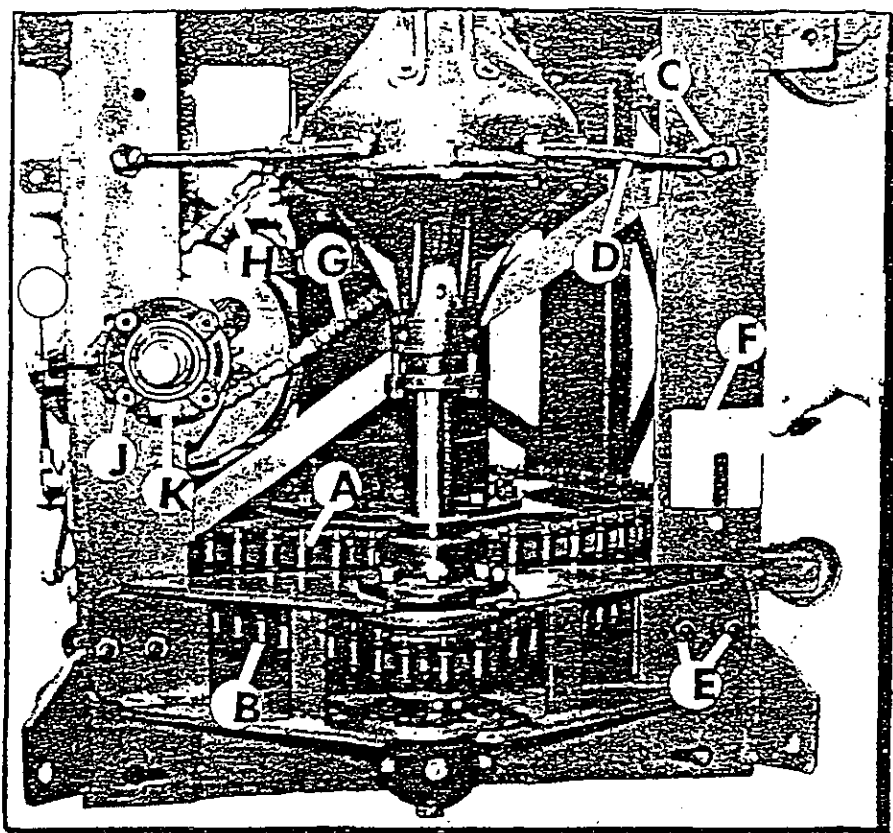

FIG. 1
Chains (A) & (B) Figs. 1 & 2 are adjusted by loosening the nuts (C) on the stud in the gear housing bracket (D) and the nuts on the same studs that are on the inside of the corner angles. Then loosen the nuts (E) on the four gear drive support bracket bolts, and insert the proper number of spacers (F) in the gear housing bracket (D) to remove all slack in the chains. Then tighten nuts (E). Adjust and tighten nuts (C) until the driving sprocket is in horizontal alignment with the driven sprocket, or in vertical alignment with the corner angles.